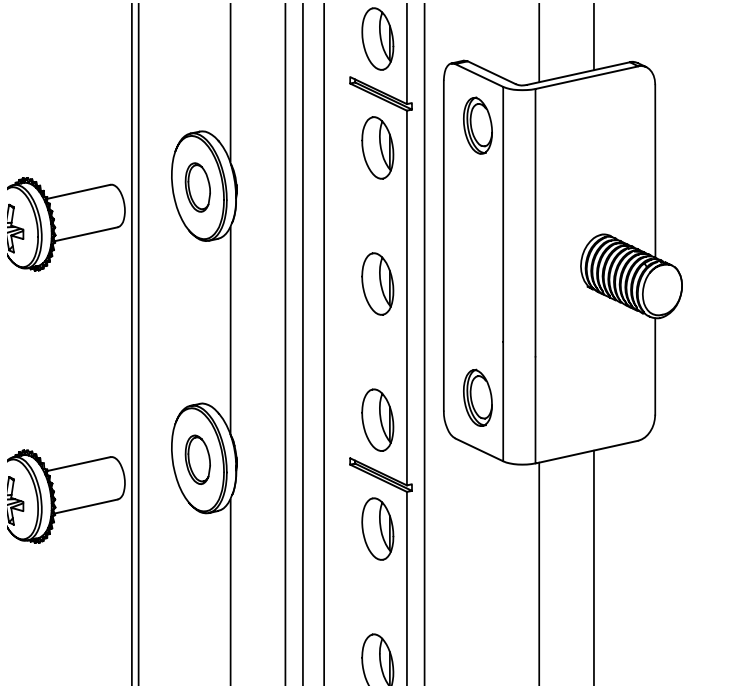

Figure 8 Installing the rear mounting brackets (HP System/e rack-left rear upright)
- For an HP System/e rack, install each of the two rear mounting brackets with (2) #10-32 x 1/2-inch Phillips pan-head screws and (2) #10 alignment washers as shown in Figure 8.